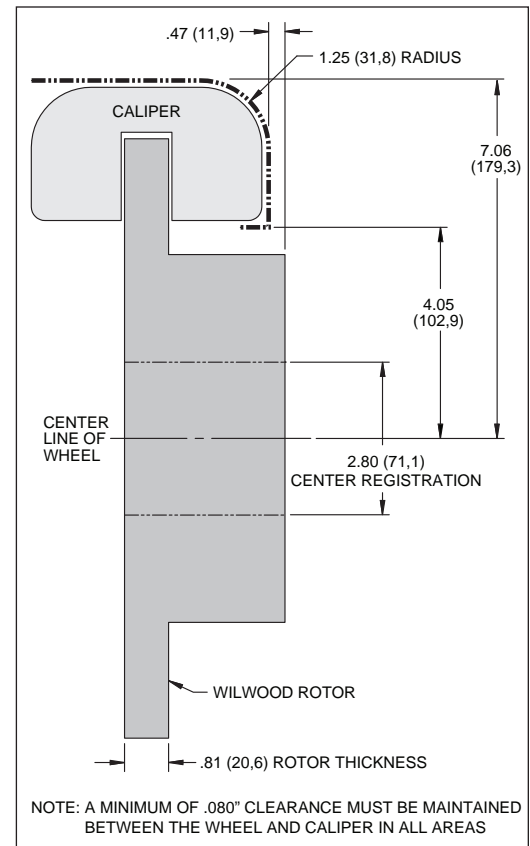

Figure 4. Wheel Clearance Diagram
- Review the wheel clearance diagram (Figure 4, page 4) to verify that there is adequate clearance with the wheels you will be using with the installation.
- Verify your wheel clearance using Figure 4.